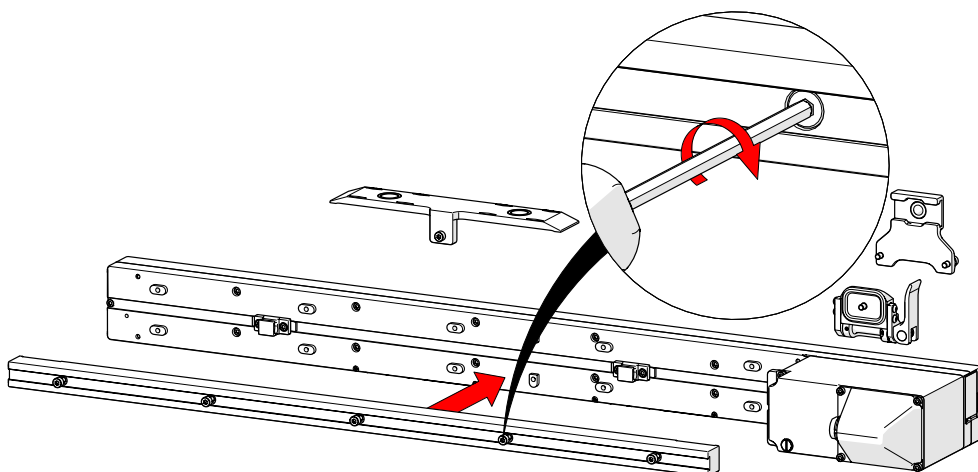

Fig. 153 - Attach mounting rail
- 12.** Attach the raster arm's mounting rail below the cable management clips. Align and tighten all the screws on the mounting rail (*Fig. 153*).